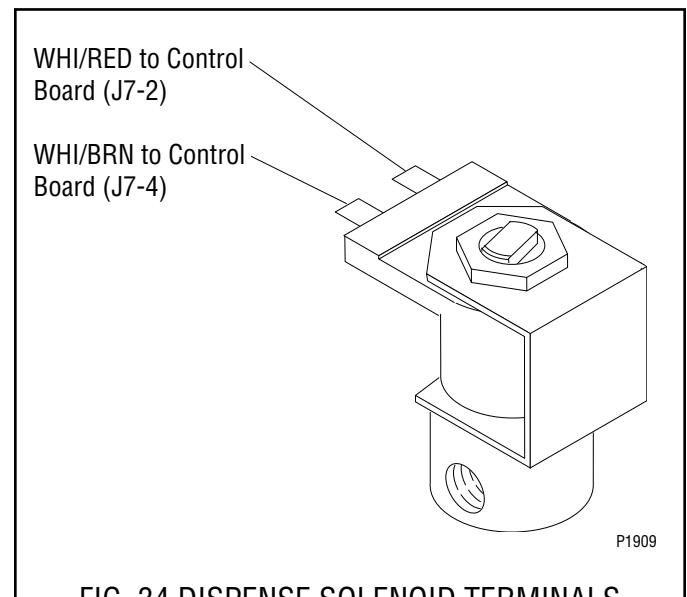

FIG. 34 DISPENSE SOLENOID TERMINALS
10. Refer to Fig. 34 when reconnecting the wires.